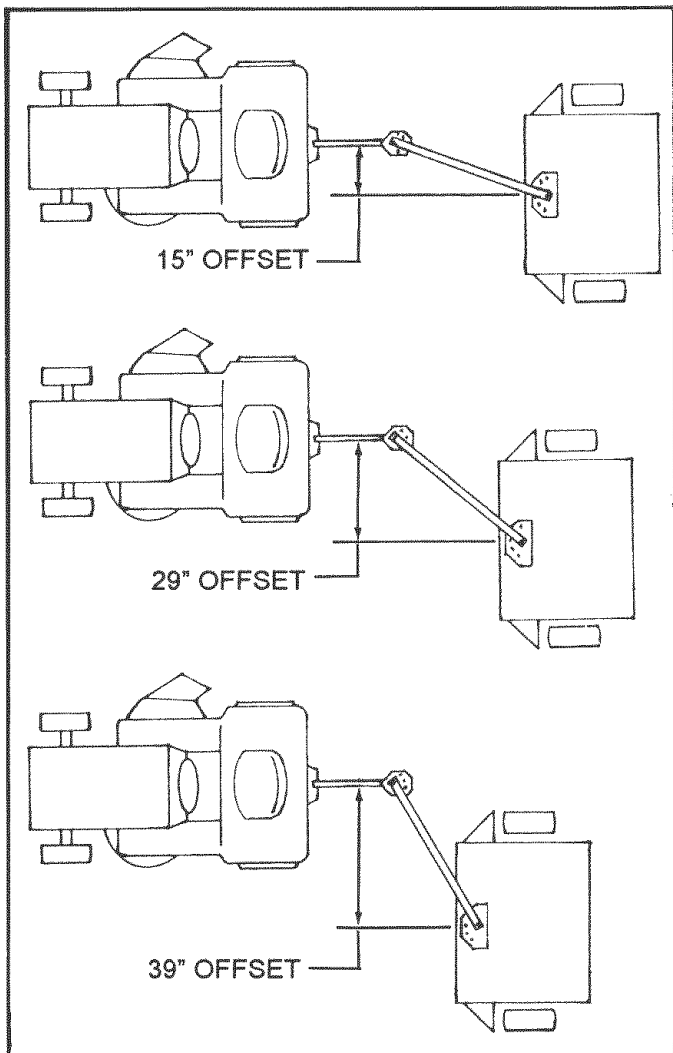

FIG. 5
- The adjustable tow hitch of this mower can be set in four positions, straight, Approximately 15" offset, 29" offset and 39" offset to either side. (See Fig. 5)